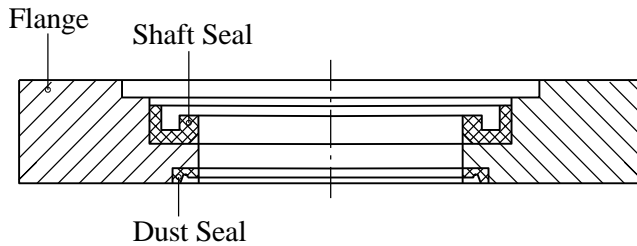

Fig.5
11. Remove with screwdriver Dust seal and Shaft seal from flange (see Figure 5). Work from outer side for both seals.